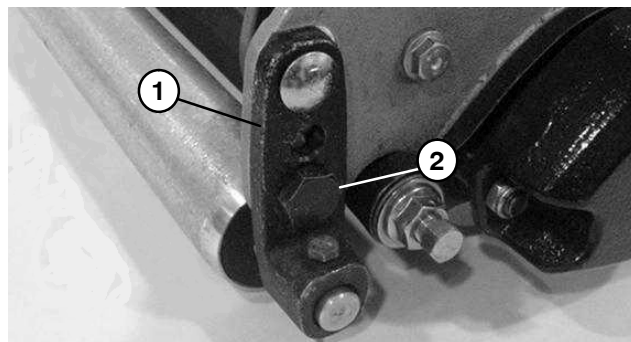

Figure 15
5. While holding reel securely on surface plate and maintaining pressure on the rear roller, rotate lower right roller mounting bolt. This bolt has an offset, which when rotated, acts as an eccentric to raise or lower the roller. The bolt head has an identification dot to identify the offset location. This dot indicates in which direction the right end of roller moves when the bolt is turned and should always be in the rear half of the arc as shown in Figure 15.